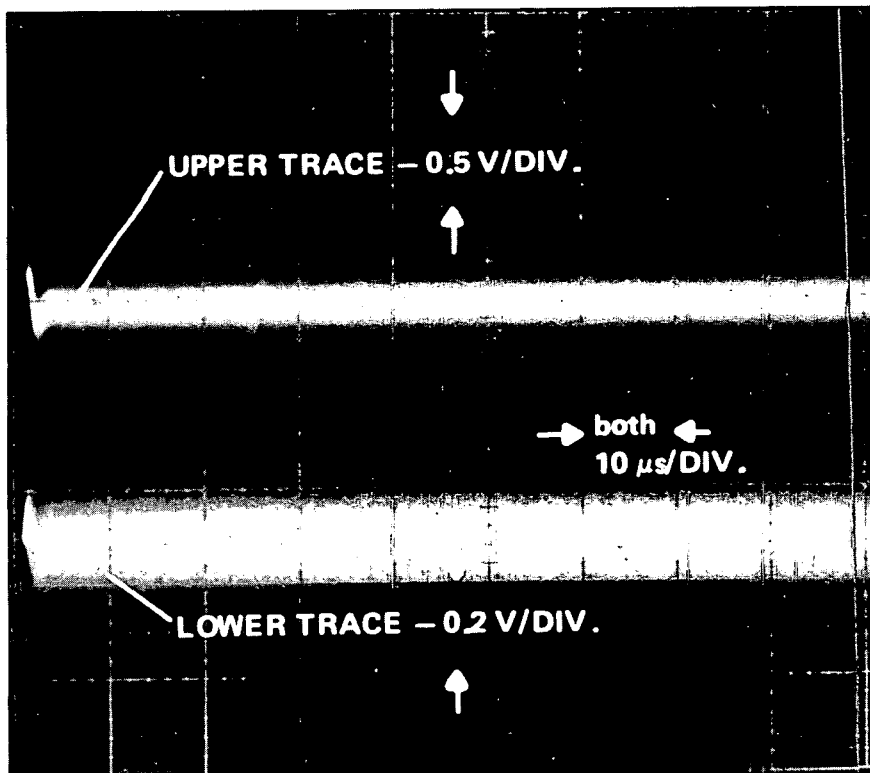

Fig. 17.
9. Recheck gain on all amplifier channels and readjust to 6 V, if necessary. Base-line noise should not exceed 0.5 V peak-to-peak at this time (Fig. 17).